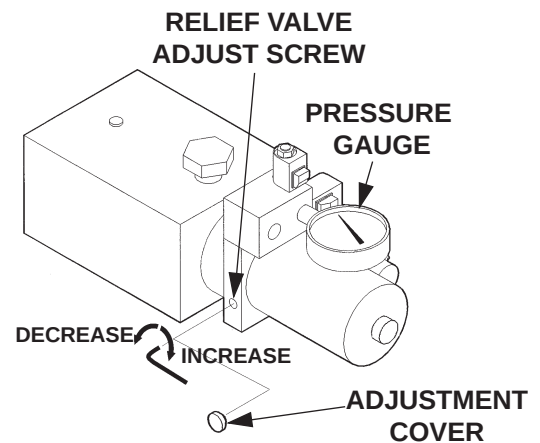

FIG. 53-1
8. With Platform on the ground, remove the pressure hose and fitting from the Pump and replace it with a 0-3000 PSI Pressure Gauge. Hold the Control switch in the "RAISE" position. Adjust the Relief Valve on the side of the Pump until the gauge shows 2200 PSI (**FIG. 53-1**). Remove gauge and reinstall pressure hose.